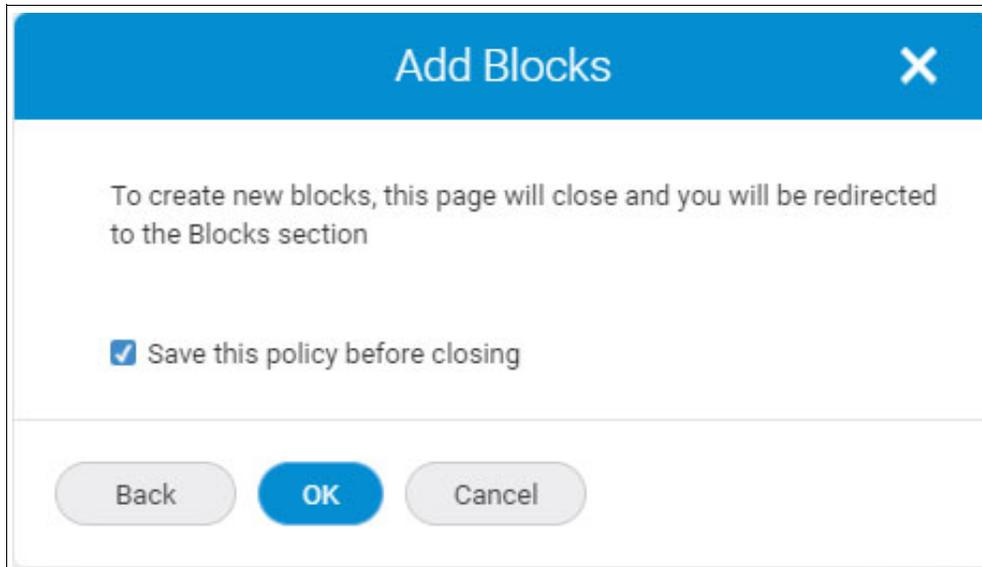

Figure 5-6 Add Blocks
6. If you want to create a block and then add it to the policy, click **Create New**. The Add Blocks window opens, as shown in Figure 5-6 on page 111.